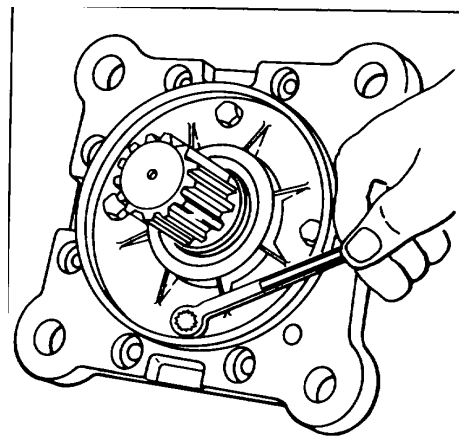

Figure 204.
12. Invert shaft/adaptor assembly. Remove four hex bolts (48) and lock washers (47). See Fig. 204.